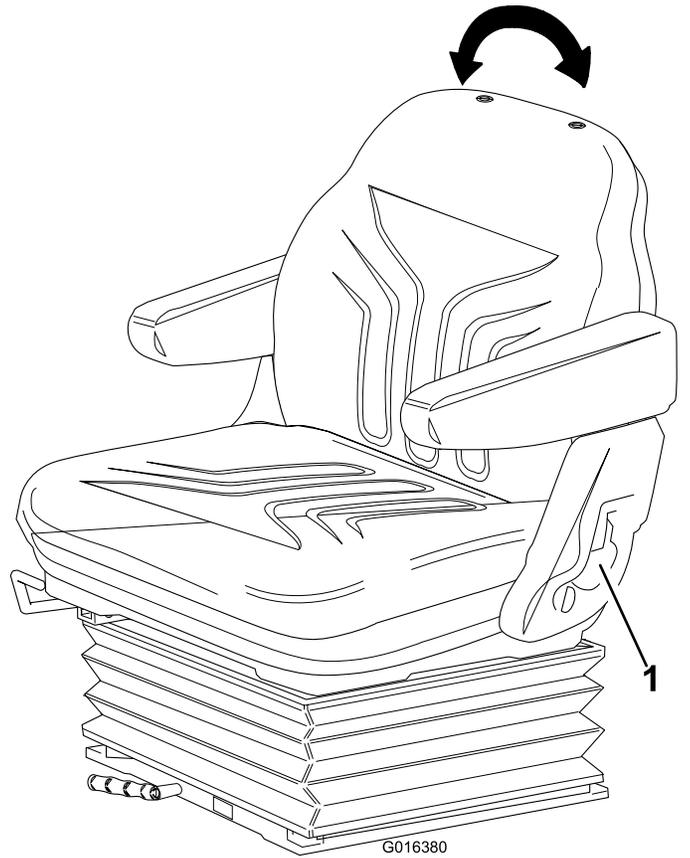

Figure 25
- Pull the handle outward to adjust the seat backrest angle (Figure 25).